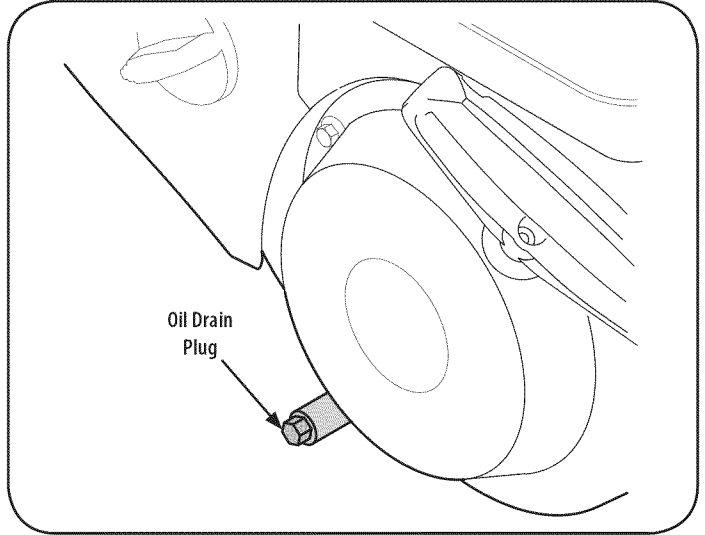

Figure 21
3. Remove oil drain plug. See Figure 21.